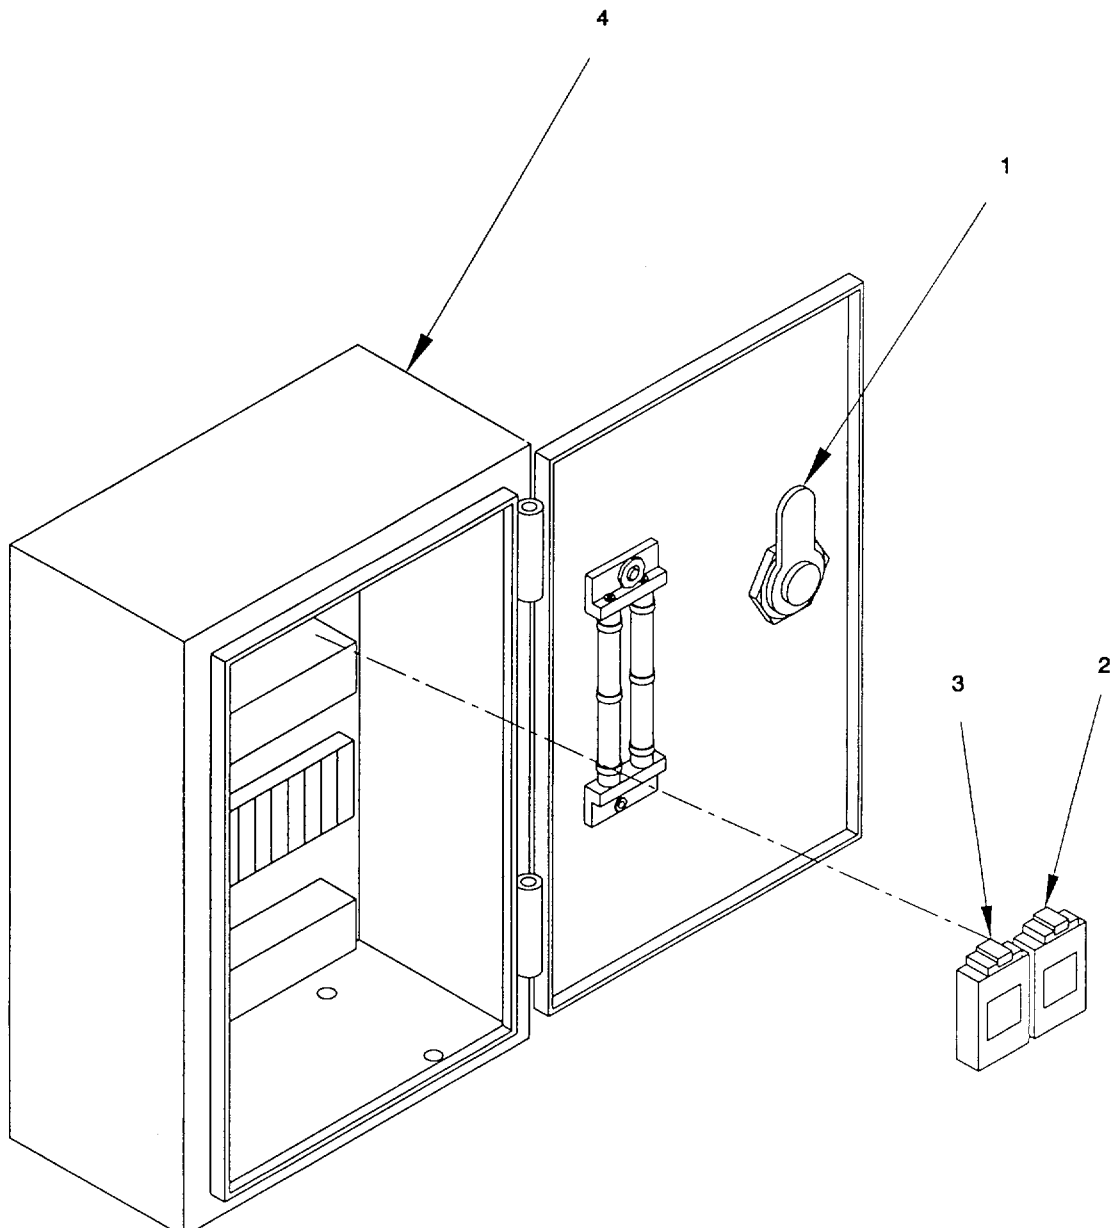

Figure 2-75. Relay, Pump-Jet Junction Box "A2". Remove/Install.
a. Remove. (figure 2-75)
- (1) Turn door latch (1) 90° and open door to junction box (4).
- (2) Disconnect and tag all wiring to the pump-jet junction box. Refer to Appendix G.
- (3) Remove relay (2 or 3).
b. Replace. (figure 2-75)
- (1) Insert new relay (2 or 3) in fuse holder.
- (2) Connect all wiring to the pump-jet junction box (4).
- (3) Close door to junction box (4) and turn door latch (1) 90° to hold closed.